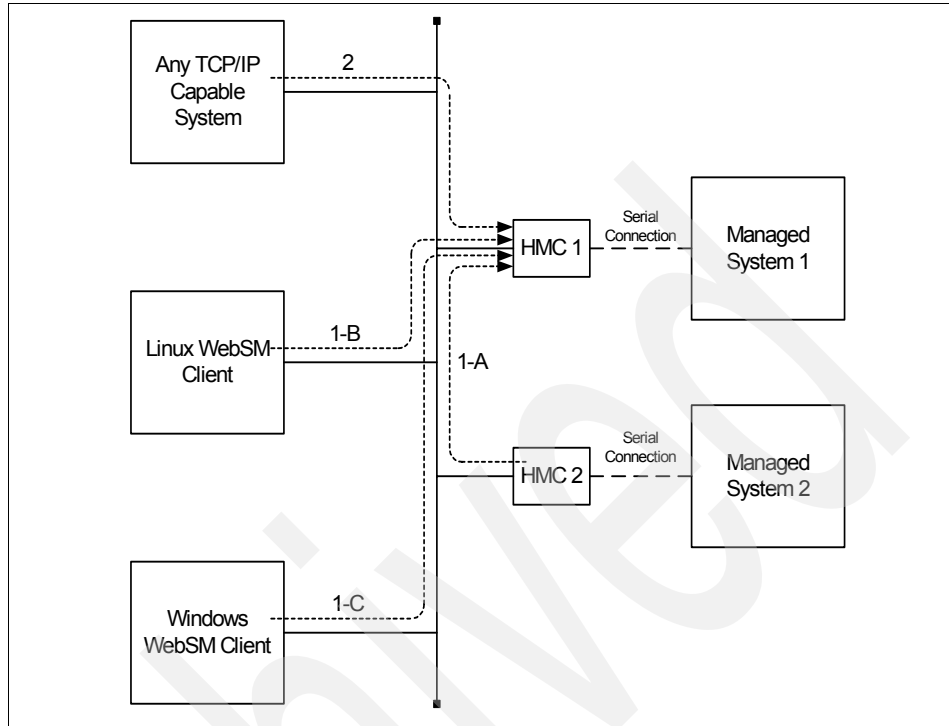

Figure 1-11 Remote connectivity option
Depending on what communication method or protocols are used, there are several options in the remote connectivity of HMC, as illustrated in Figure 1-11 on page 22. In this figure, we assume the following points:
- ▶ We exclude the possible connection to the AIX systems managed by Web-based System Manager from the HMC to avoid complexity in Figure 1-11 on page 22. You can also manage these AIX systems from the HMC, even if the AIX system is running in a partition.
- ▶ We assume that the HMC1 shown in Figure 1-11 on page 22 is a *server*; all connections are made to HMC1 from the other systems, and some operations are executed on it, such as configuring a partition or powering on the managed system.
Figure 1-11 shows two categories of remote connectivity options explained in the following sections: remote access to the HMC graphical user interface, as shown by 1-A, 1-B, and 1-C (using the dotted line), and the remote execution of command line function, as shown by 2 (using the dotted line).
The HMC provides a set of commands in order to be used for many management tasks; however, those commands are only accessible from the remote system, not from the HMC local console. This remote connectivity option is shown as 2 in Figure 1-11 on page 22, and any TCP/IP-capable system that supports `rexec` or `ssh` can use the remote execution of command line functions.